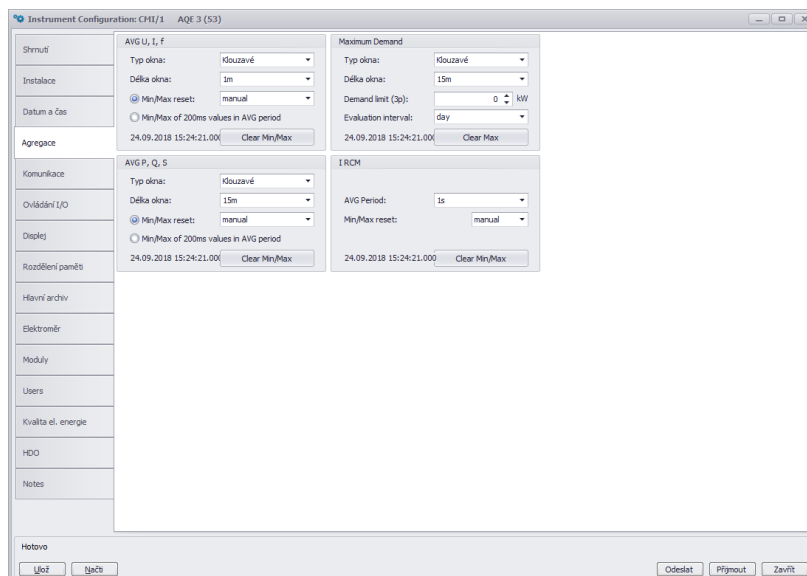

Figure 15: ENVIS.Daq — aggregation setting defines the averaging and evaluation of maximum and minimum values for display and communication.
2.4.3 Aggregation (averaging, fig. 15)